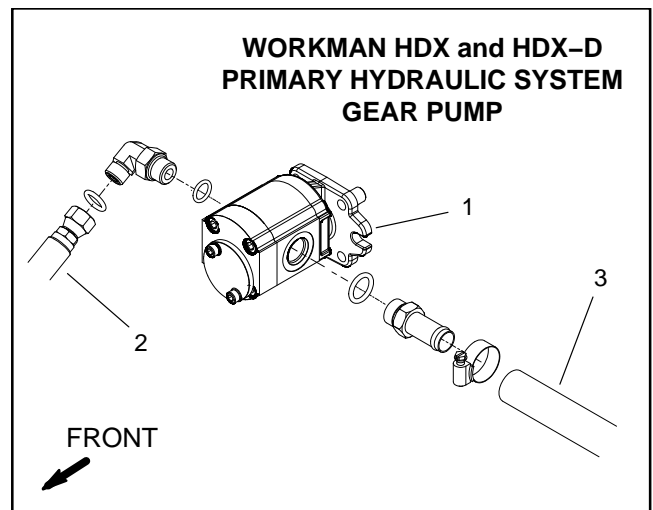

Figure 17
2. With the engine off, clean hose fitting and disconnect the pressure hose from the gear pump (Fig. 17). Install tester with pressure gauges and flow meter in series between the gear pump and the disconnected hose. **Make sure the tester flow control valve is fully open.**
4. Make sure hydraulic oil is at normal operating temperature by operating the vehicle for approximately ten (10) minutes. Check for hydraulic leakage and correct before proceeding with test.